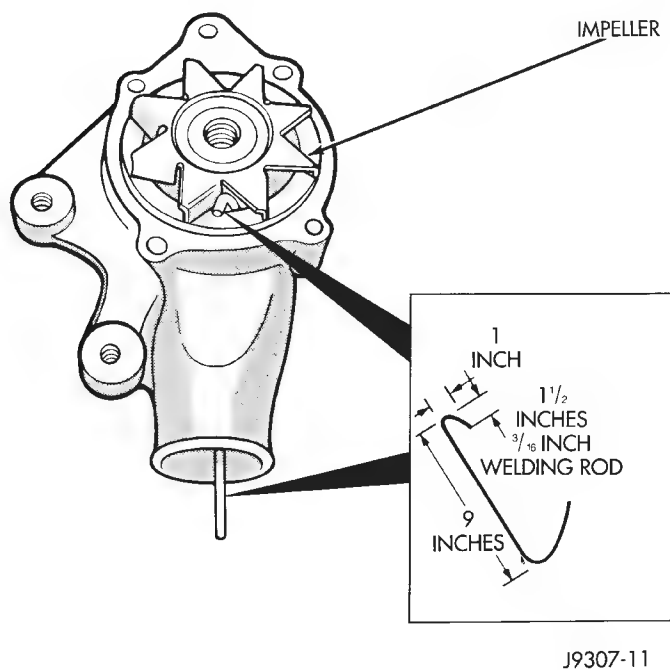

Fig. 2 Impeller Test—Typical
- (1) Drain the cooling system.
- (2) Loosen the fan belt(s).
- (3) Disconnect the lower radiator hose from the water pump.
- (4) Bend a stiff clothes hanger or welding rod as shown in (Fig. 2).
- (5) Position the rod in the water pump inlet and attempt to hold the impeller while turning the fan blades. If equipped with a viscous fan drive, turn the water pump shaft with a breaker bar and socket attached to a mounting flange nut. If the impeller is loose and can be held with the rod while the fan blades are turning, the pump is defective. If the impeller turns, the pump is OK.